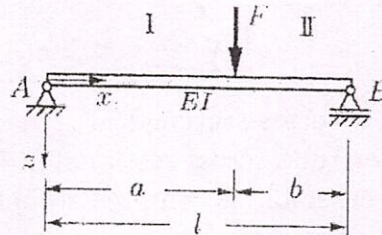

Figure 4
Q.5 A simply supported beam is subjected to a concentrated force  $F$  at  $x = a$ , see Figure 4. Determine the deflection  $w$  at the location  $x = a$ . Find your results by integrating separately over the two regions using boundary and continuity conditions.